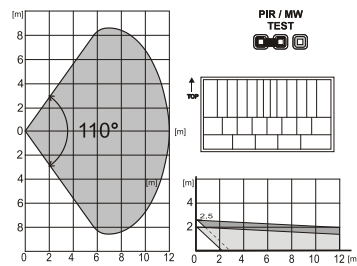

Fig 2: Coverage characteristics can be changed by using an alternative lens:
The **PIR detector** is equipped with a 110° / 12 m lens. Coverage – see Figure 2. Check the coverage with the jumper (8) in the **"PIR"** position. Movement is indicated by a red LED.